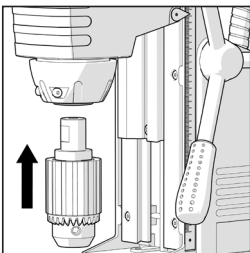

Fig. 11
- Align the two (2) 'flats' machined on the chuck adaptor with the grub screws in the spindle. (Fig. 11)